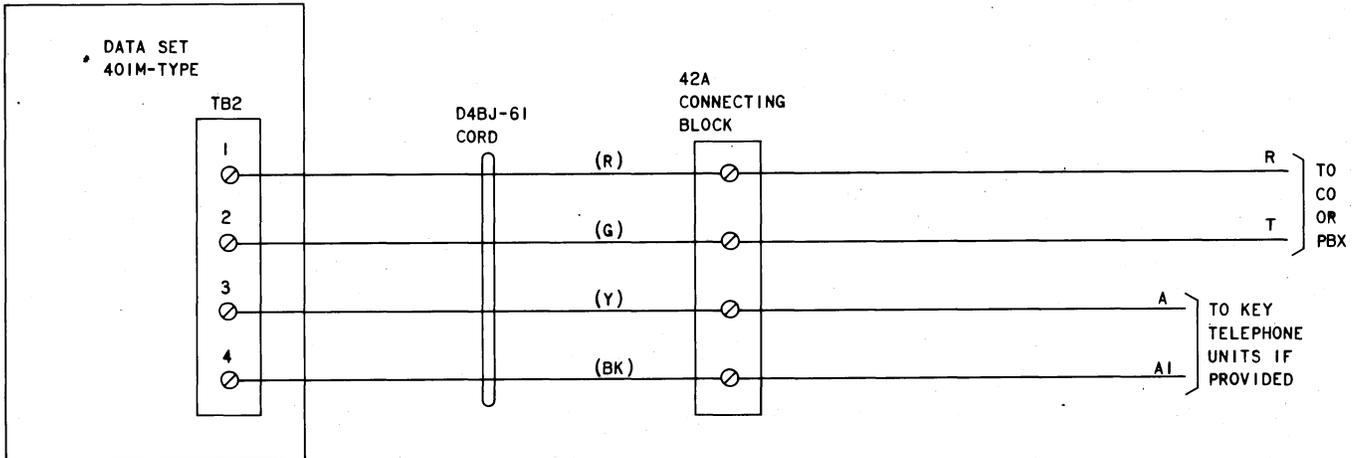

Fig. 3—Data Set 401M-Type—Connection Diagram
4.02 DS 401M-type is supplied with a D4BJ-61 cord (5 feet 6 inches long) for connection to telephone line facilities and key telephone units, if provided. Refer to Fig. 3 for connections required. The A and A1 leads are used to provide A lead control when the data set is used on key telephone